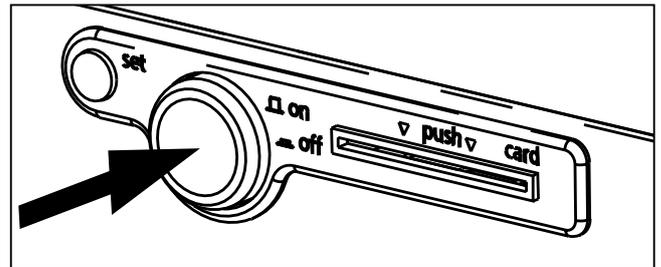

Fig. 22 Switching off the constant climate chamber
1. Switch off appliance. To do this, press the main switch on the operating panel so that it clicks home into the appliance (see Fig. 22).